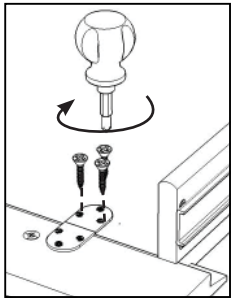

Figure 5
Attach Keyboard Front (K) to Keyboard (L) with Wood Screws for hinge. (see Figure 5)